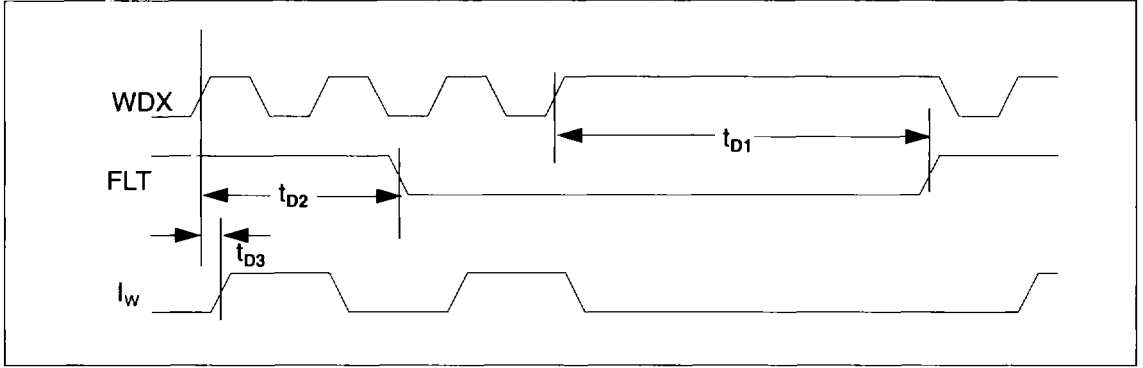

Figure 1: Write Mode Timing Diagram
*See Figure 1 for write mode timing diagram.